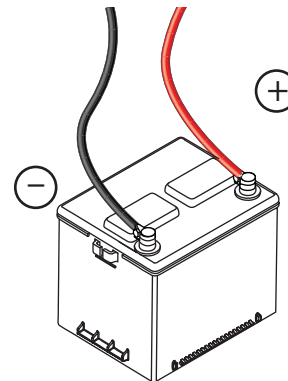

Figure 4-10. Battery Cables
5. See Figure 4-10. Inspect the battery posts and cables for tightness and corrosion. Tighten and clean as necessary.